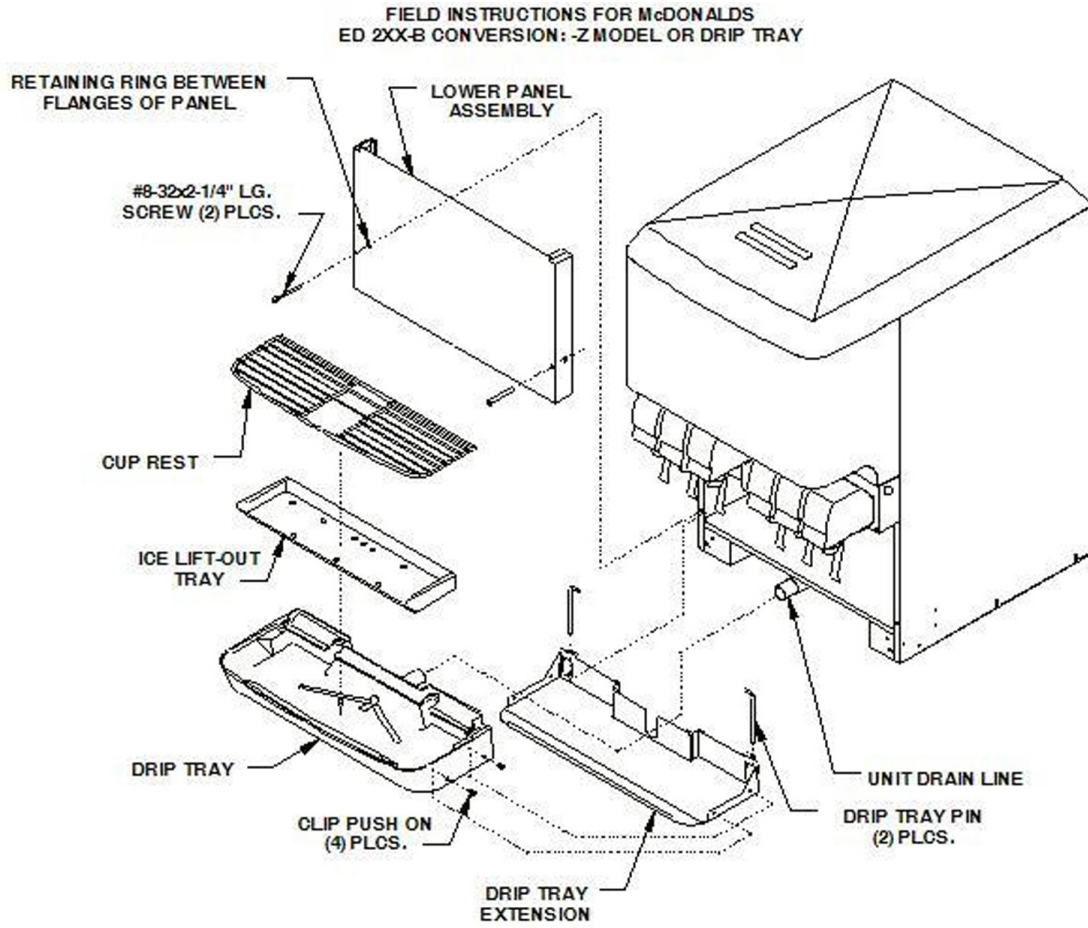
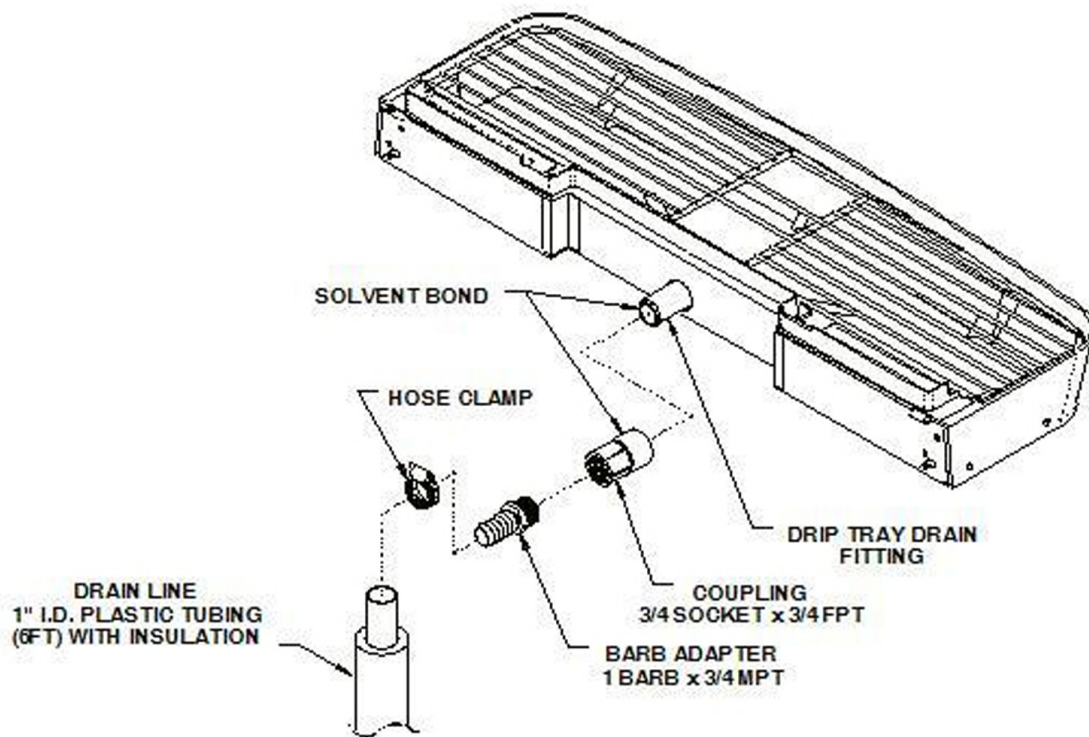

Figure 1. Parts Identification
Figure 2. Drip Tray Drain Hook-Up
Refer to Figure 1. and Figure 2. for the following procedures:
3. Refer to Figure 2. for installing the coupling and adapter fittings provided in the kit to the drip tray drain fitting.
4. Install the drip tray into the extension with (4) push-on clips. Secure the insulated drain line to the drip tray barb adapter from step No. 3 with the hose clamp provided in the kit.
5. Secure the drip tray assembly from step No. 4 to the unit base with (2) pins. Note that the rear of the extension has two tabs that fit into rectangular openings in the base for engagement of the pins.
6. Assemble the lower panel provided in the kit to the unit with the (2) No. 8-32 X2–1/4 inches long screws and retaining washers.